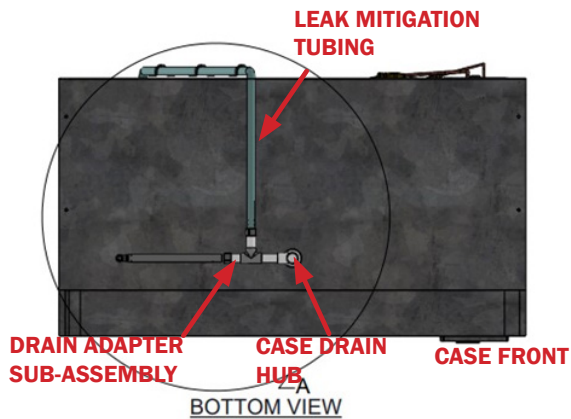

Fig. 31 Long vinyl tubing
5. Once the Drain Adapter is secured, attach the Long Vinyl tubing to the rear-facing barbed fitting (T-section) (Fig. 31).